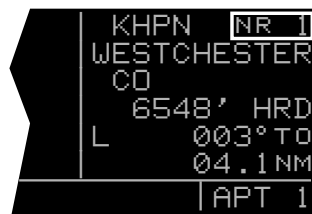
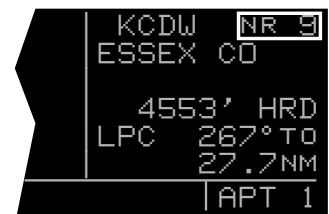

Figure 3-71
Figure 3-72
The nearest list is positioned in front of the complete list. That is, you must scan backwards (turn the knob counter-clockwise) through the complete list to reach the nearest list. You will know when you have reached the nearest list because the top right portion of the waypoint page will flash the relative position of the waypoint to your position. “NR1” indicates nearest (figure 3-71) while “NR 9” indicates the ninth nearest (figure 3-72). As you scan clockwise “NR 1, NR 2, NR 3,...,NR 9”, the next scan position is the beginning of the complete list. The nearest list can only be reached scanning backwards. It does not wrap around after the last waypoint in the complete list.
1. Press **NRST**. The waypoint page for the nearest airport is now displayed on the right side. The right inner knob may now be used in the normal manner to scan the other nearest airports (knob in the “out” position) or to view all eight airport pages for a specific airport (knob in the “in” position). **Figure 3-71** shows an example of a nearest APT 1 page.